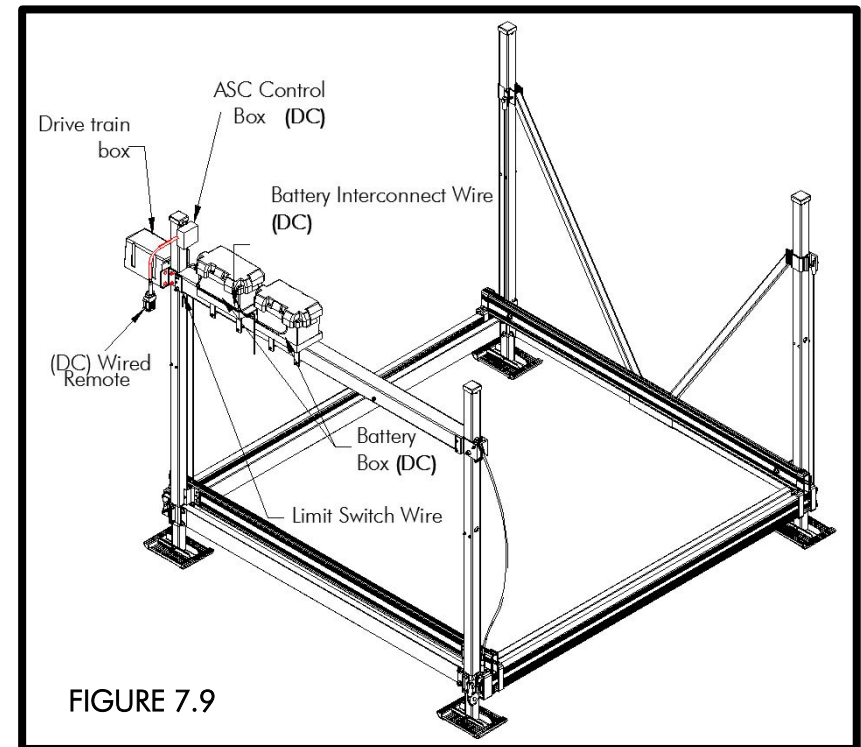

FIGURE 7.9
- PLUG THE WIRED REMOTE INTO THE ASC. USE THE SUPPLIED VELCRO TO RUN THE WIRE TO THE DESIRED LOCATION OF THE REMOTE (FIGURE 7.9).